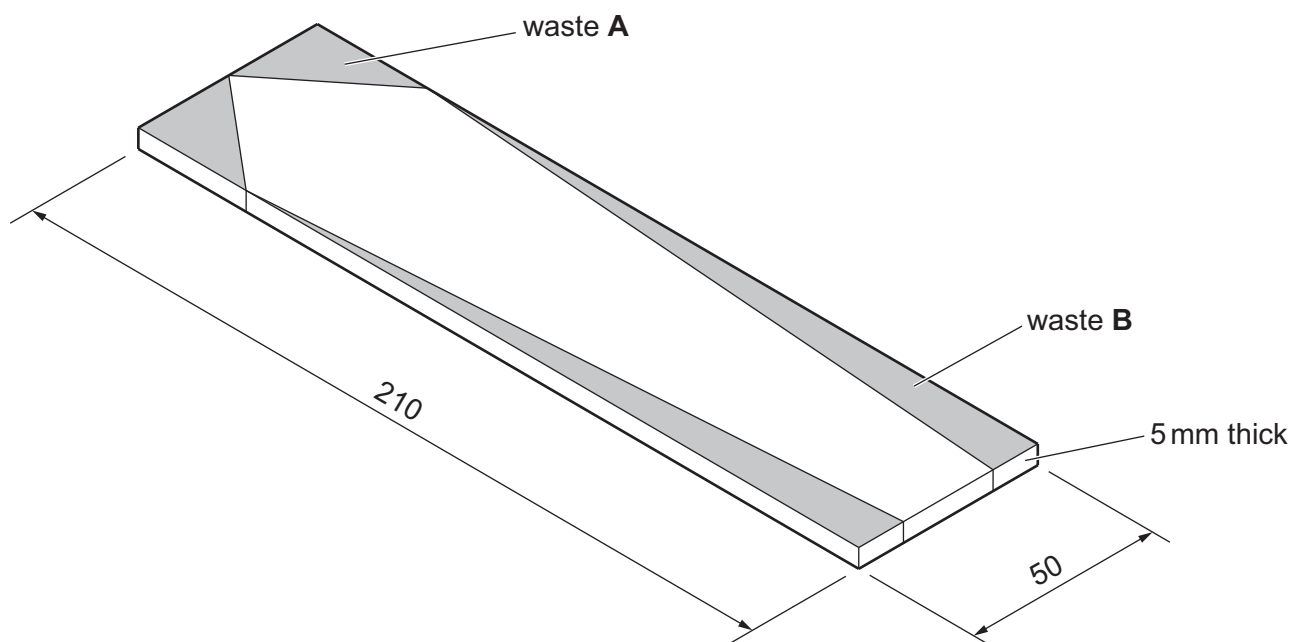

Fig. 11.2
- (c) Fig. 11.2 shows the shape of the arrow marked out on MDF.